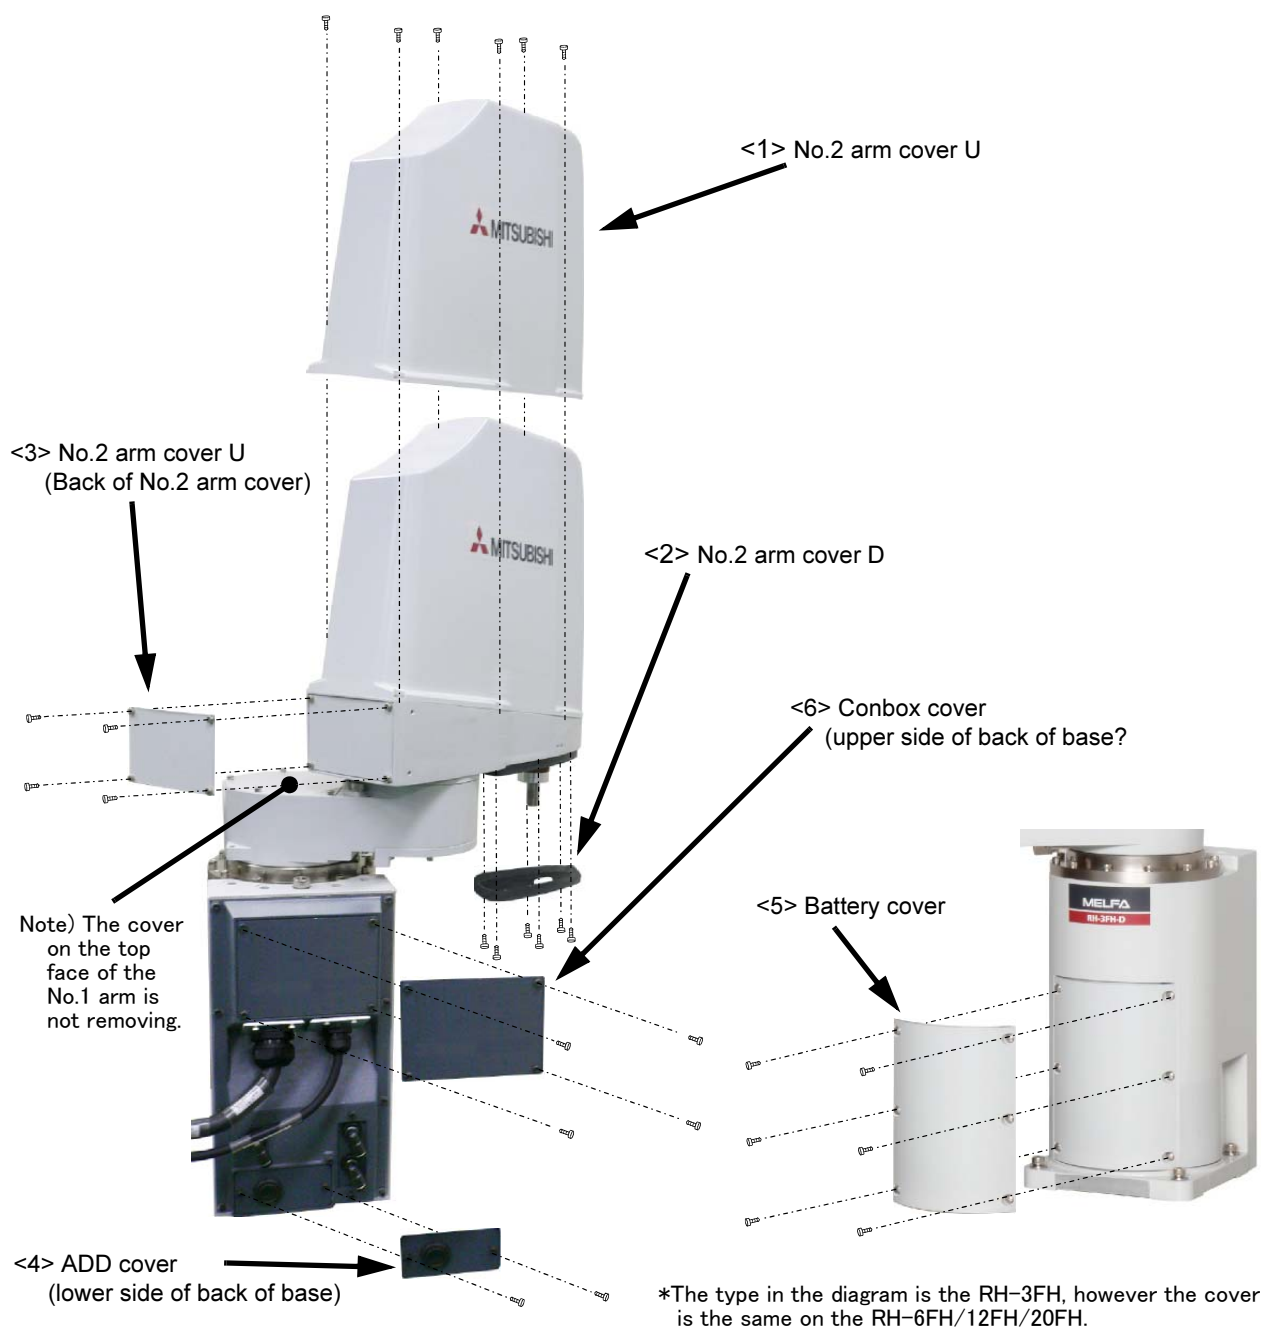

Fig.5-4 : Installing/removing the cover
- (1) Referring to Fig. 5-4, remove the covers.
- (2) The names of the covers and installation screws are given in Table 5-3.
- (3) When reattaching the covers after a maintenance inspection, proceed in the reverse order of their removal.
- 2) Refer to Page 68 "Fig. 5-4: Installing/removing the cover", and remove the No.2 arm cover U.